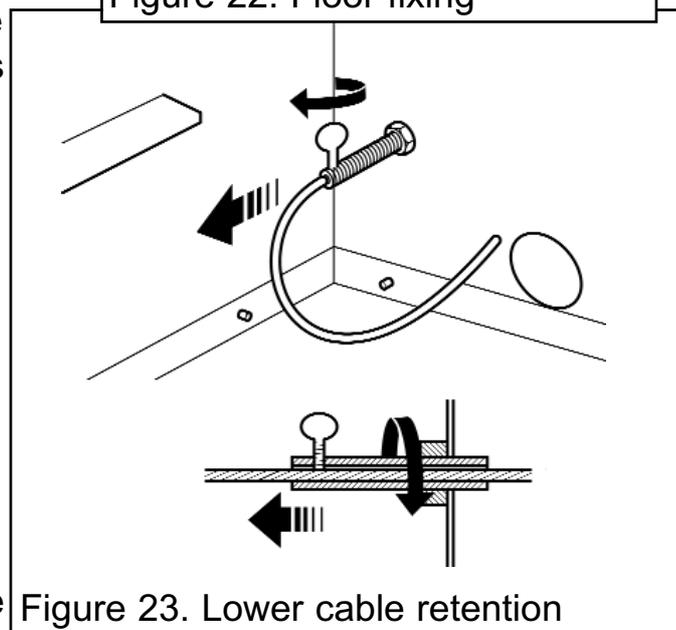

Figure 23. Lower cable retention
11. Pull each cable taut. Push the cable retainers hard up against the back panel. The end of the cable adjuster will pass into the hole. Tighten the screws in the retainers so that they clamp the cables in position. Apply tension to the cables by turning the hexagonal adjusters by hand (See figure 23).